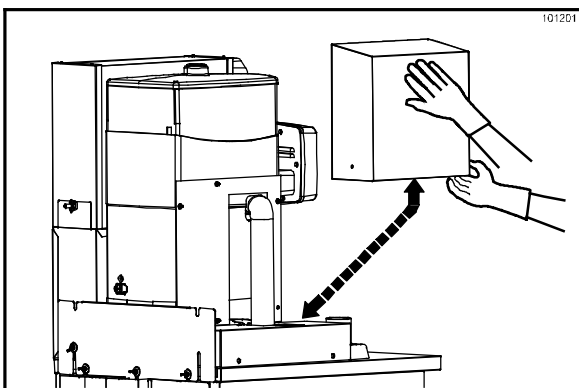

Figure 84
31. Reinstall the lid holder box by positioning the locking notch opening in the bottom of the box over the locking notch. Push the box back until the locking notch securely engages the opening and stops the box movement. Verify proper installation by attempting to lift the box up. If the box is properly installed, the box will not lift up. (See Figure 84.)